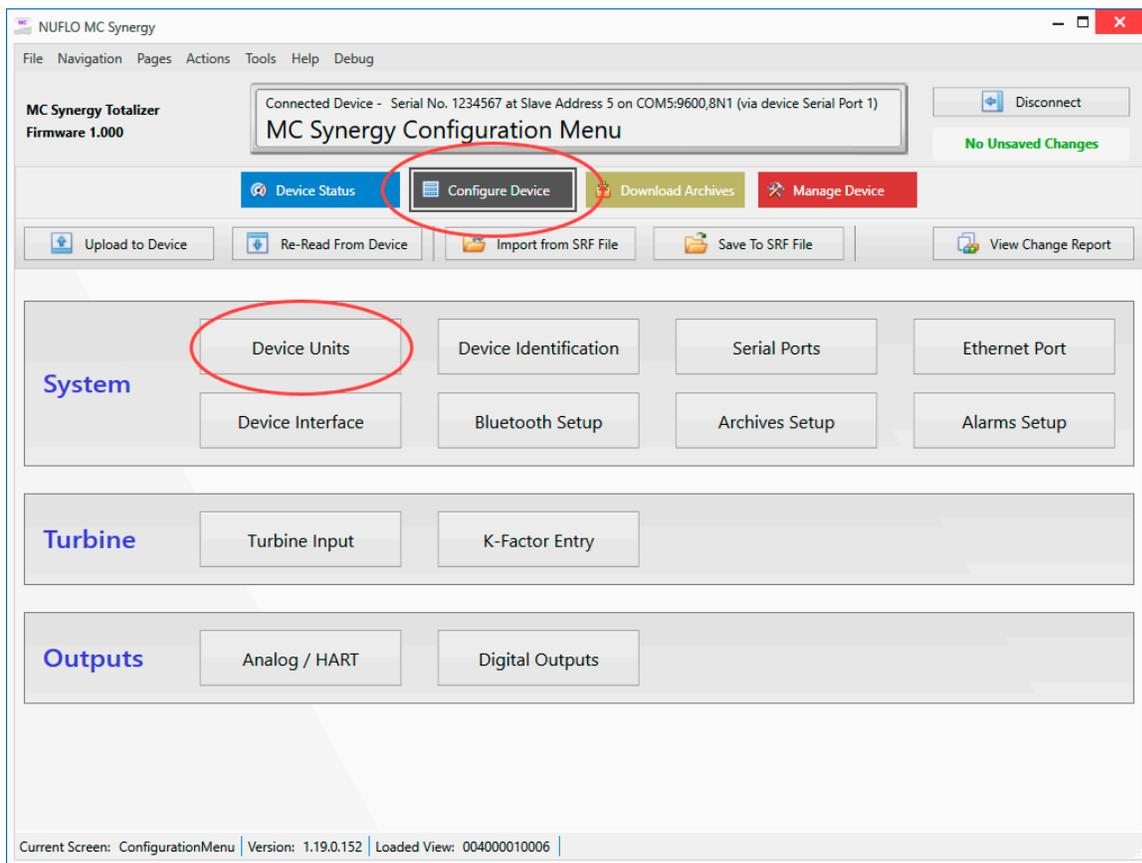

Figure 5.2—Configure Device menu tile
1. Select the Configure Device tile from the navigation menu (Figure 5.2).